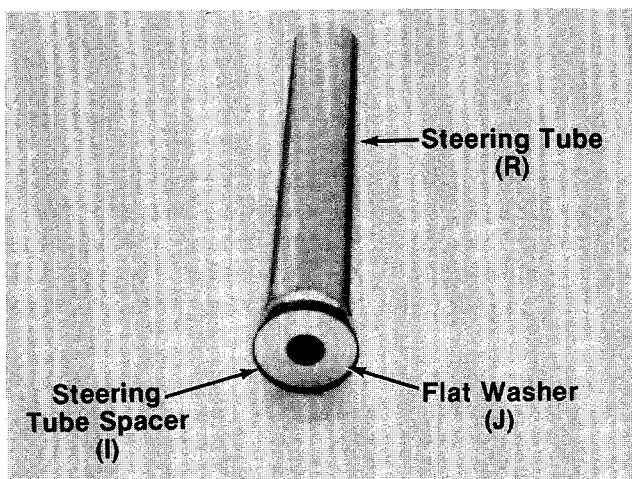

FIGURE 4.
2. Press the large flat washer (J) (1-5/8" diameter) into the open side of the black plastic steering tube spacer (I). See figure 4.
3. Press the steering tube spacer into one end of the chrome-plated steering tube (R). See figure 4. Make certain spacer is seated securely into tube.